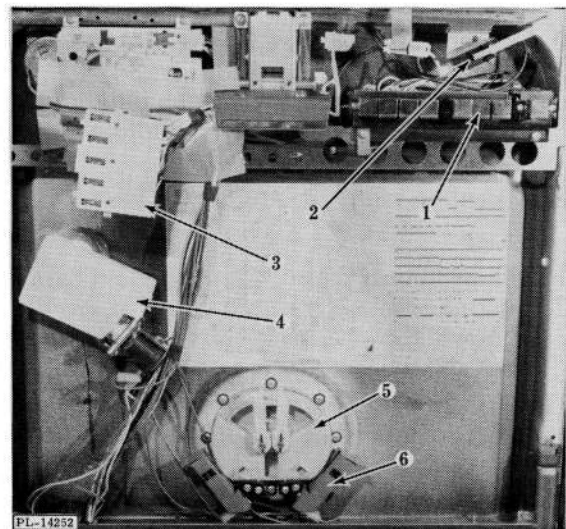

Fig. 40
Indicator Sequence Light Assy. (KDS & KDP) (3, Fig. 40)
Program Switch Assy. (1, Fig. 40) (KDS shown)
NOTE: Interlock switch (2, Fig. 40) is also accessible when control panel is removed.
Inner Door Assy. (Fig. 40)
Rinse Agent Dispenser (4, Fig. 40) (Optional on KDI & KDC)
Detergent Dispenser (5, Fig. 40)
3. Remove bimetal and holder assembly (6, Fig. 40).